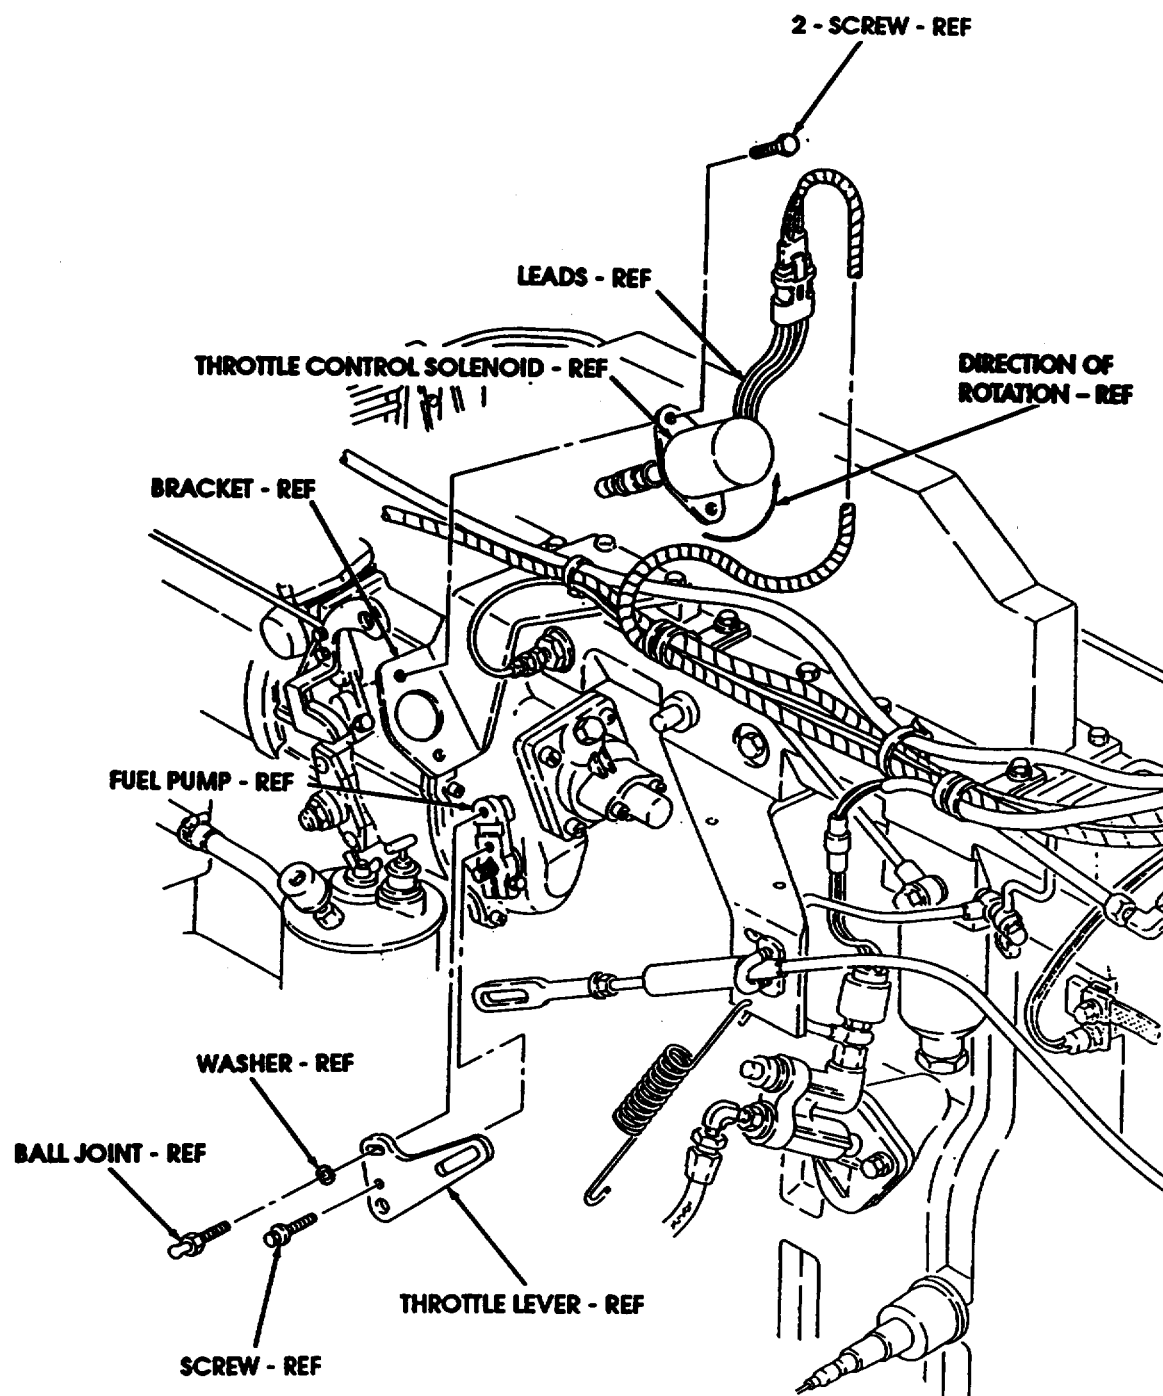

FIGURE 6
- (13) Remove ball joint, washer, screw, and throttle lever from fuel pump as shown in figure 6.
- (14) Remove two screws and throttle control solenoid from bracket. Rotate throttle control solenoid 180 degrees and secure on bracket with two existing screws as shown in figure 6.